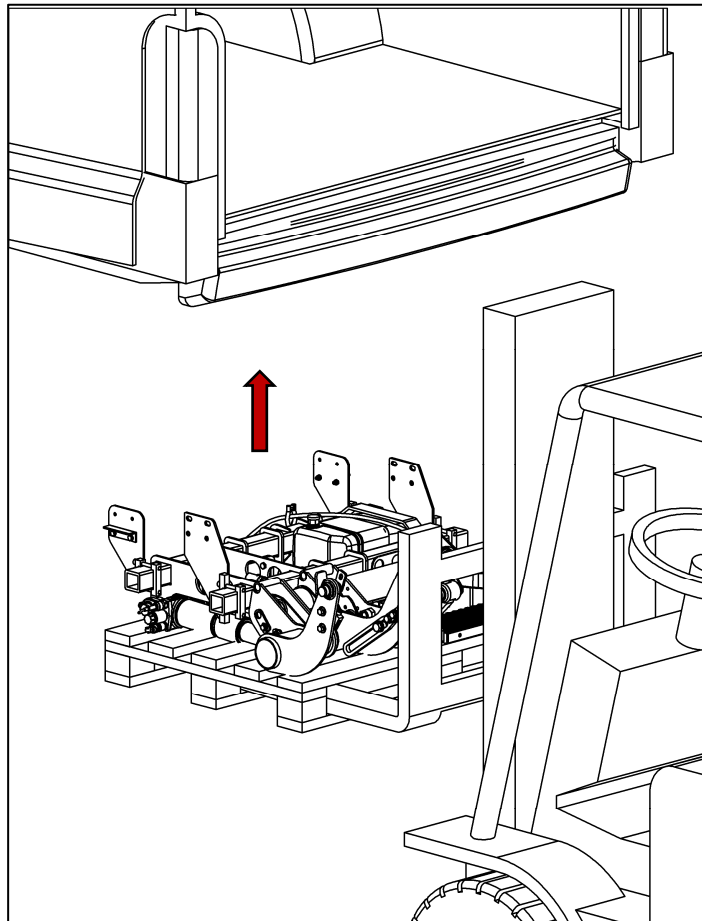

Fig. 27
- Place the prepared lifting gear (on a pallet) under the vehicle using a suitable means of transport, e.g. pallet truck, forklift, etc. (see Fig. 27).